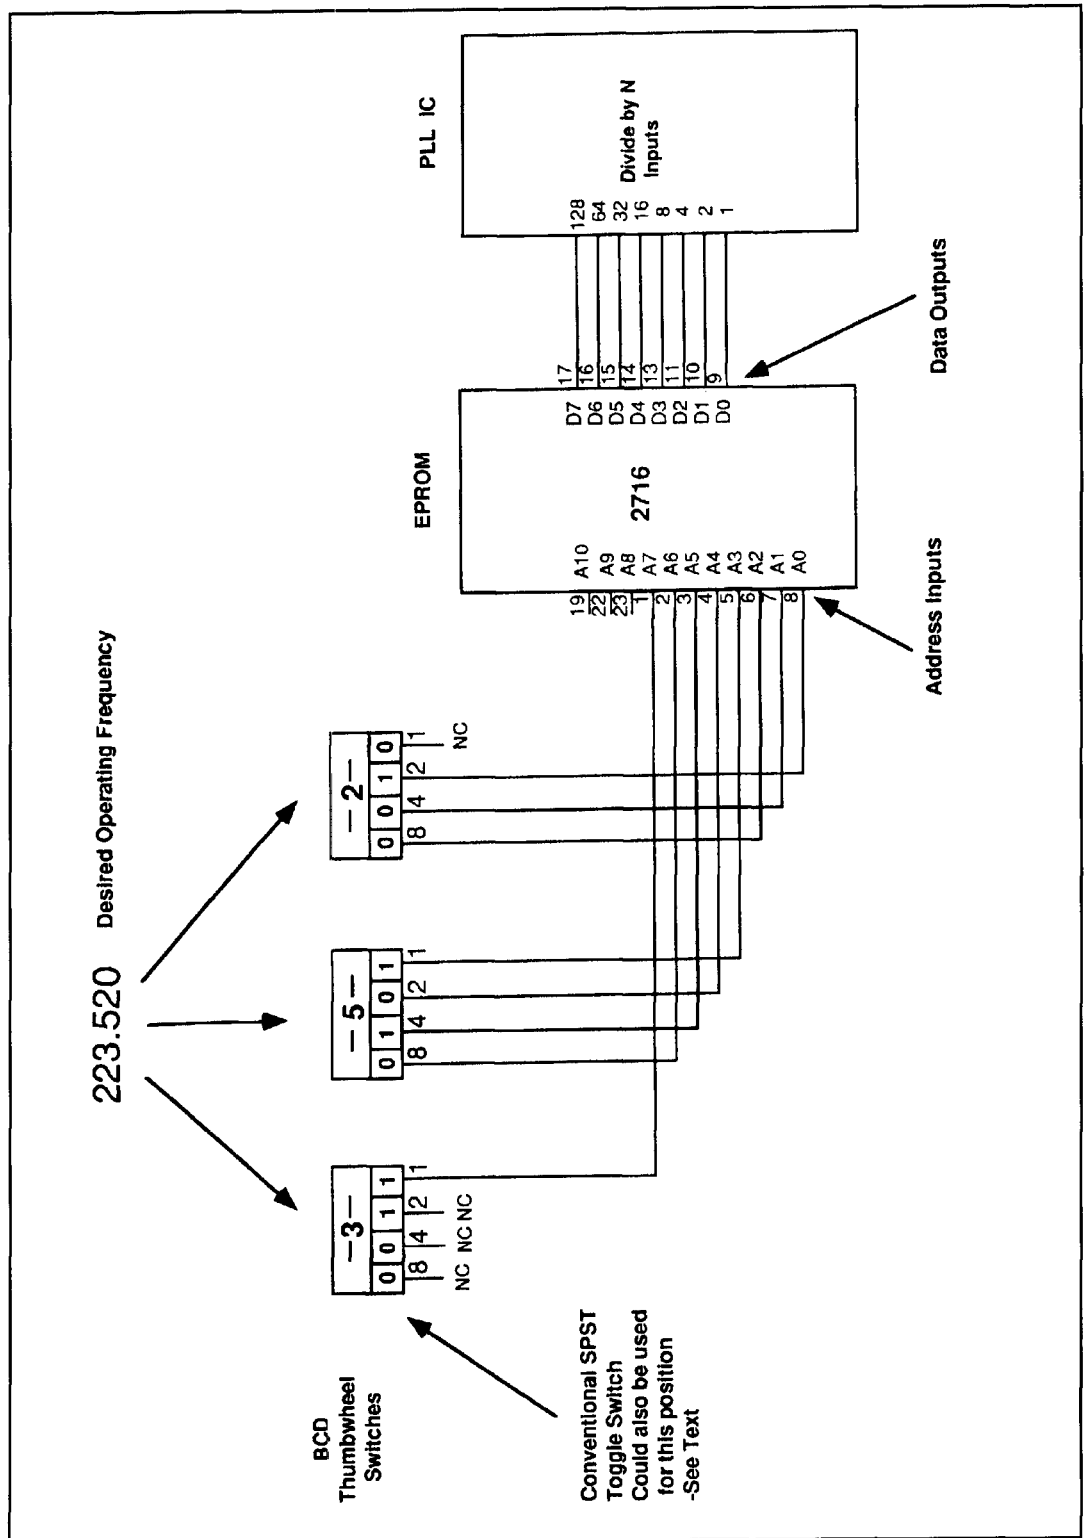

Figure 2. Simplified parallel interface functional diagram for 222-MHz synthesizer PLL IC.
**Figure 2** shows the BCD switch-EPROM approach used with a synthesizer for a 222-MHz transmitter. The synthesizer was described in a previous article1 and uses a VCO in the 37-MHz range, and a mixing scheme to convert the actual divide-by-N frequency to the 1-MHz range. The PLL IC in this synthesizer requires 8 binary inputs that match the number of data output lines provided by inexpensive EPROMs.
Refer to **Figure 2** for the specific situation where 223.52 MHz is the desired transmit frequency. My 222-MHz transmitter uses 18-MHz range crystals with a total frequency multiplication factor of 12, so the output of the synthesizer
In **Figure 2**, the output of the BCD switches set at 223.52 MHz is a binary 10101001 that forms the 8-bit binary address for the EPROM. For this technique to work properly, the binary equivalent of the required divide-by-N number,  $379 - 256 = 123$  (remember the PLL IC divide-by-N 256 pin is permanently selected), must be stored (programmed) at the EPROM data location addressed by 10101001. The binary equivalent of 123 is 01111011.
**Figure 2** shows three BCD thumbwheel switches that indicate the desired frequency. The MHz BCD switch only has one output line connected—the 1 line—because it's the only